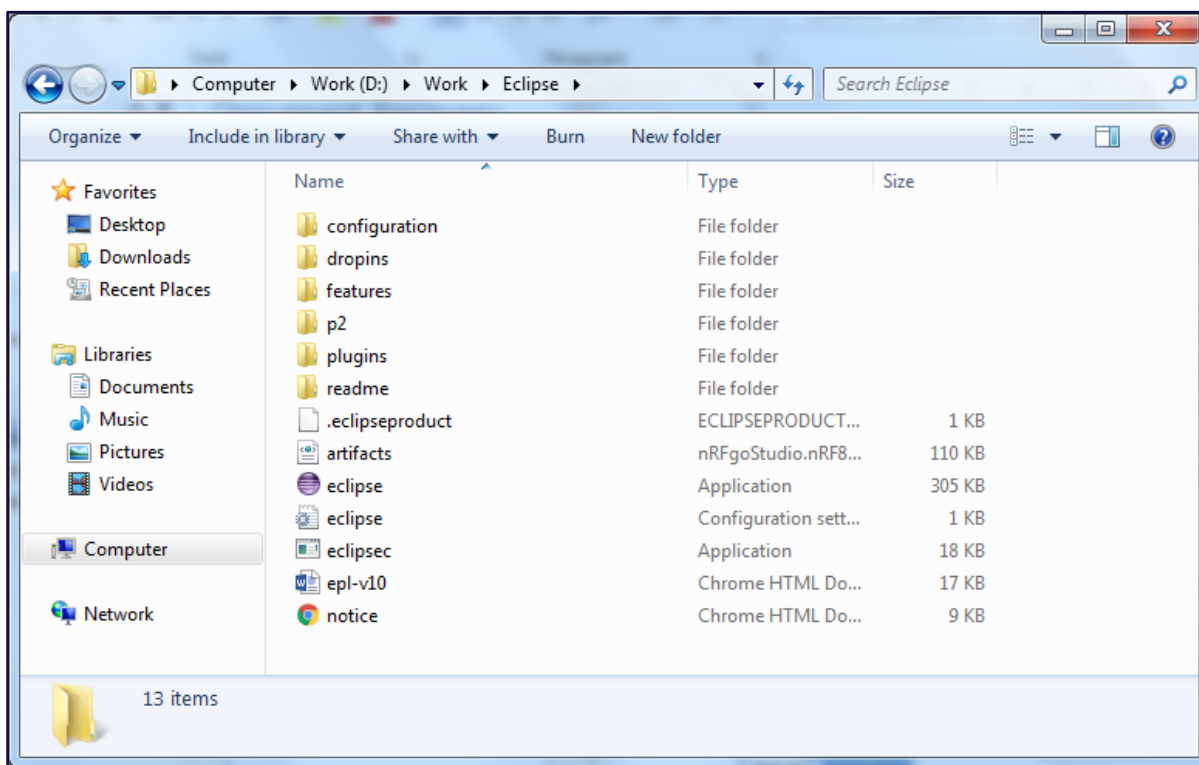

Figure 3: Eclipse executable location
**D:\Work\Eclipse** (Figure 3).